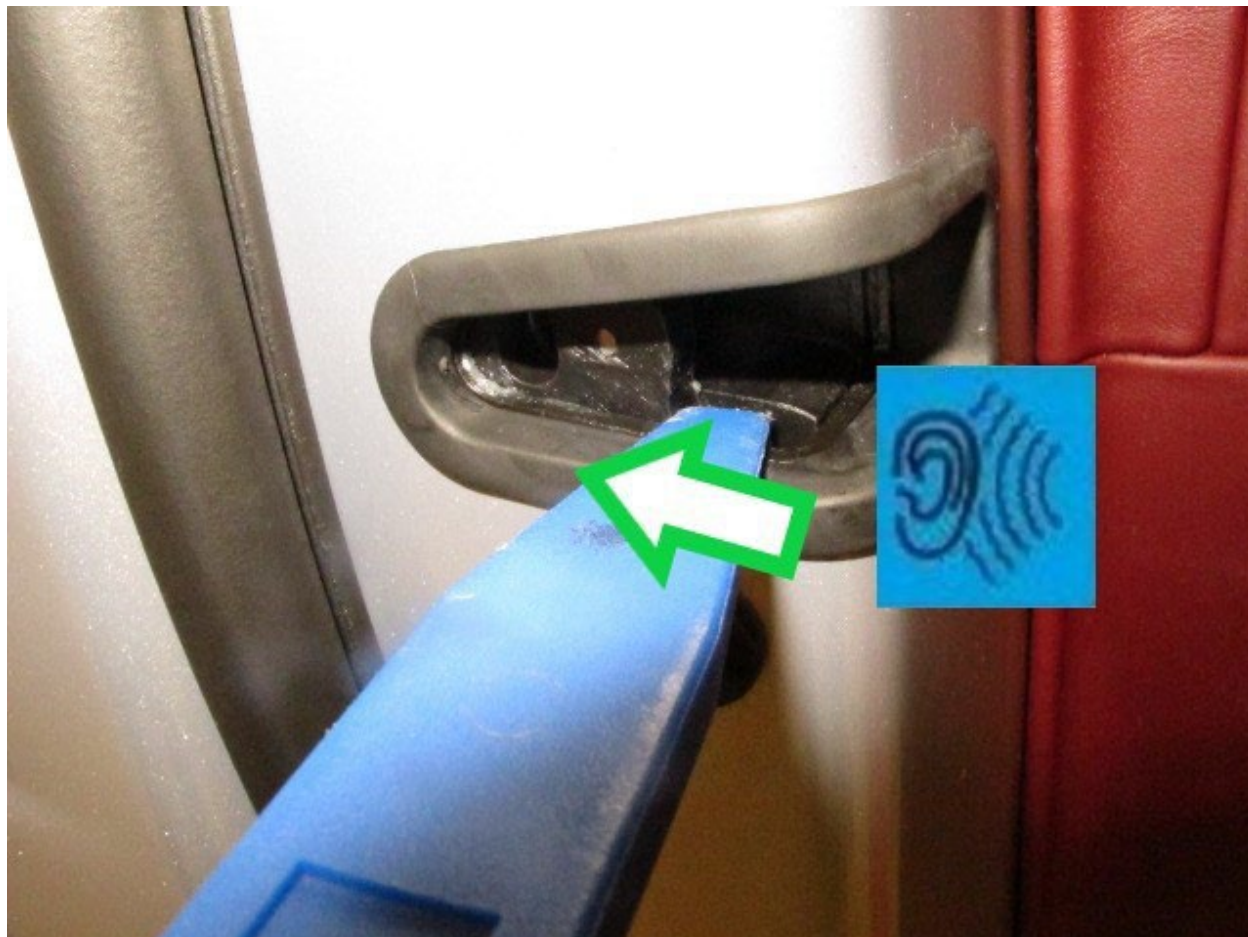

Figure 1
2) Referring to Figure 1 - With the door open - Use a suitable non metallic tool - Close the latch